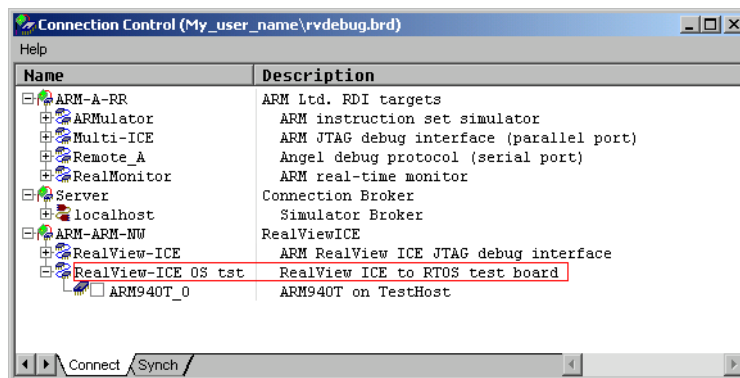

Figure 3-4 New connection in the Connection Control window
Your new RealView ICE target is now displayed in the Connection Control window, shown in Figure 3-4.
1. Ensure that you can see the new connection in the Connection Control window, shown in Figure 3-4 on page 3-10.